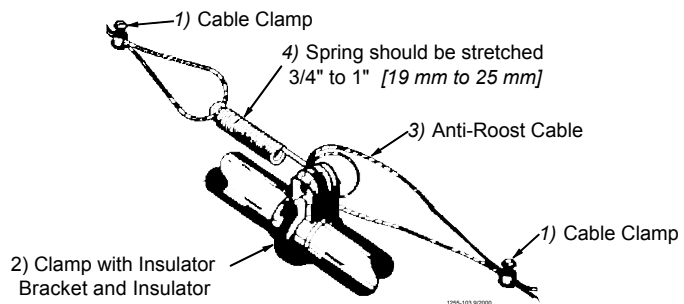

Figure 81. Anti-Roost Cable Mid-Line Connection
4. Attach a spring in the center groove at the second anti-roost bracket and cut the cable at this point. See **Figure 81**.
5. Thread the ends of the cable through the end of the spring. Pull the cable tight so that there is 3/4" to 1" [20 to 25 mm] of stretch in the spring. Clamp the cable to form a loop and cut off any excess. See **Figure 81**.
6. Attach the cable to the insulator. For best results, make a double loop around the anti-roost insulator in the center groove of the insulator and fasten with a 1/16" cable clamp as shown in **Figure 81**.